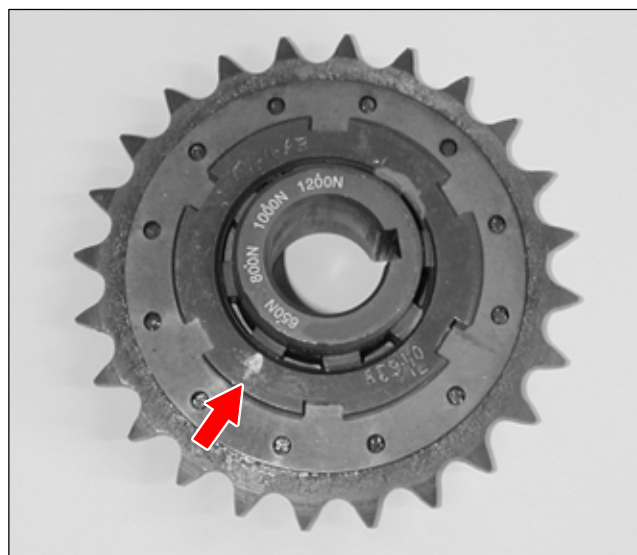

Fig. 11: Setting slip-clutch torque
- Using a hook spanner, turn the setting nut clockwise until the arrow points towards the required chain pulling force (see Fig. 11). Chain pulling force is continuously adjustable.
- Using a hook spanner, turn the setting nut anticlockwise until the arrow points towards the required chain pulling force (see Fig. 11). Chain pulling force is continuously adjustable.
- Re-fit the setting nut and, using a hook spanner, turn the setting nut anticlockwise until the arrow points towards the required chain pulling force (see Fig. 11). Chain pulling force is continuously adjustable.